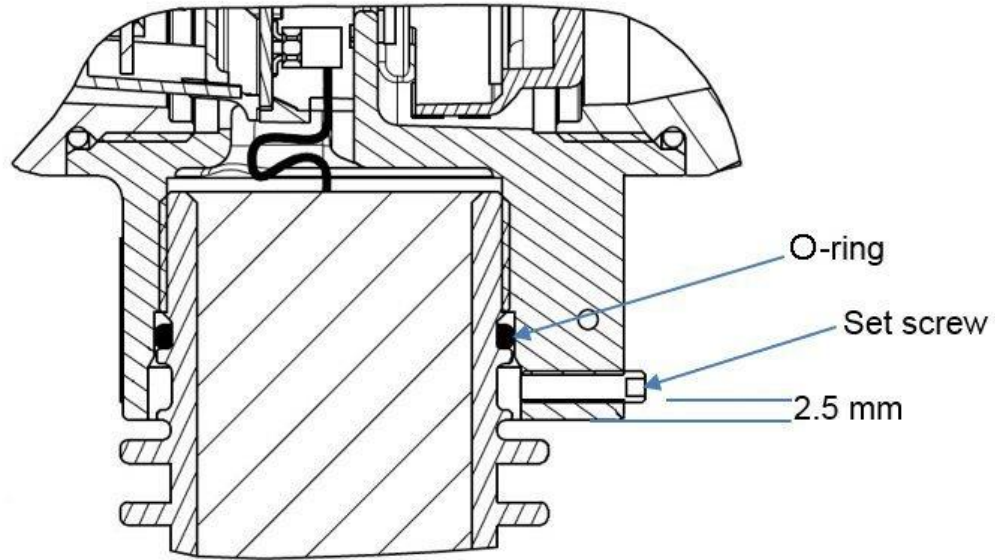

Figure 5-8: Rook Assembly
Screw only as far as indicated in Figure 5-8 .
14. Tighten set screw as shown in Figure 5-8. The set-screw should not protrude from the Communications electronics housing. Protrusion indicates that the sensor housing is screwed an incorrect amount into the communications housing.